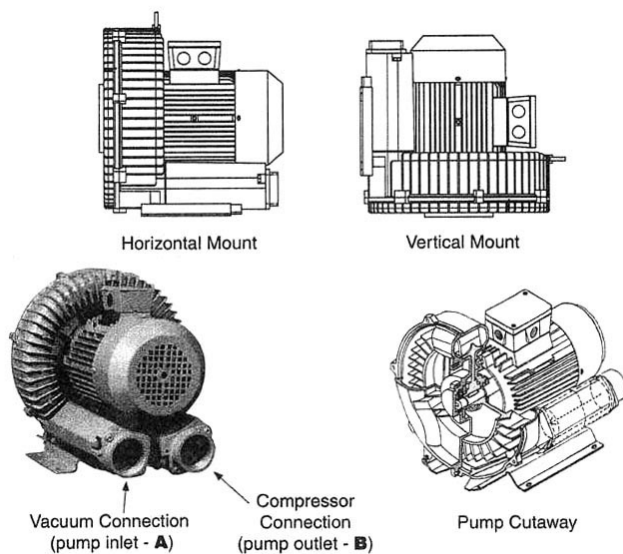

Figure 1
As illustrated in Figure 1, the Airtech 3BA blower can be installed in any physical configuration.
1. For vacuum operation, connect the suction pipe to connection A, and for pressure operation connect the pressure pipe to connection B (See Figure 1). Install startup screens before startup to protect pump from debris.